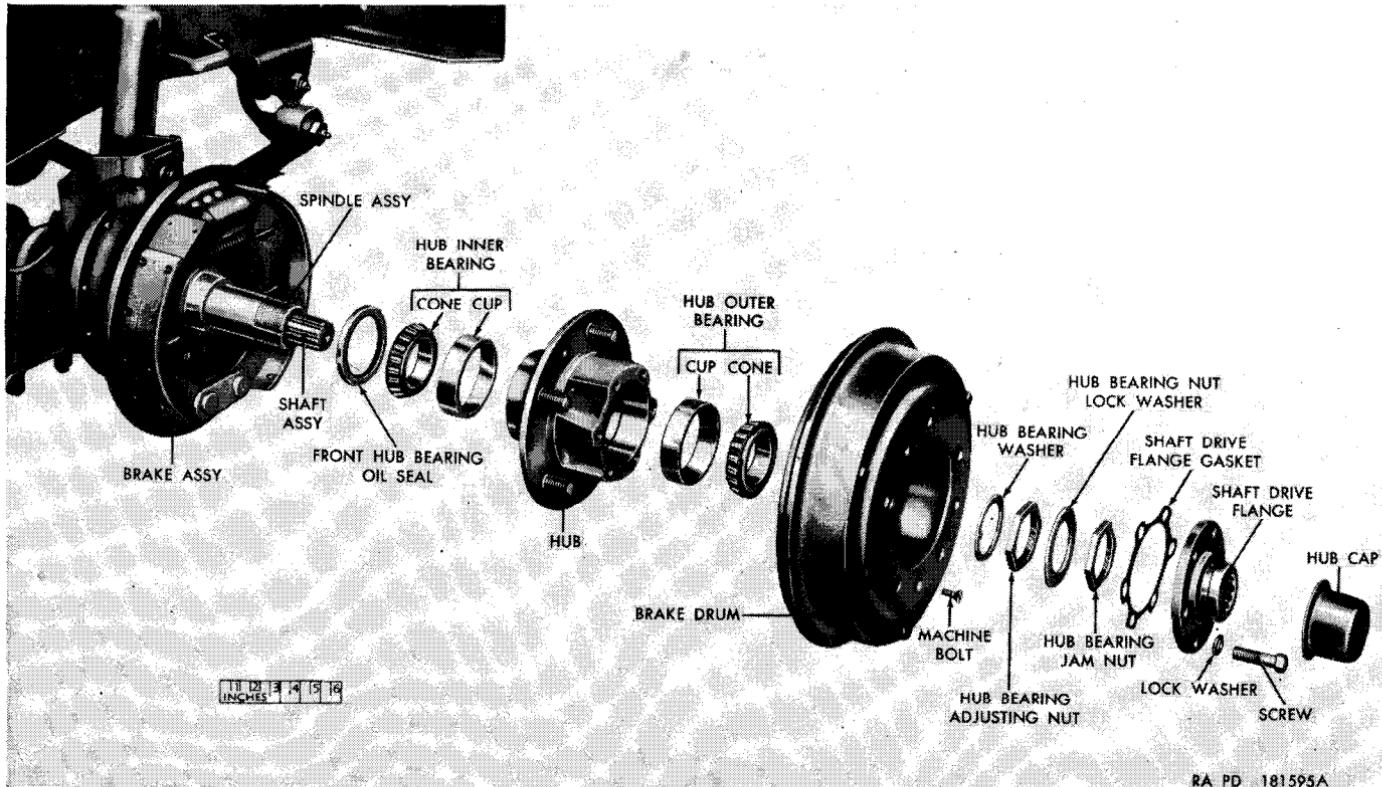
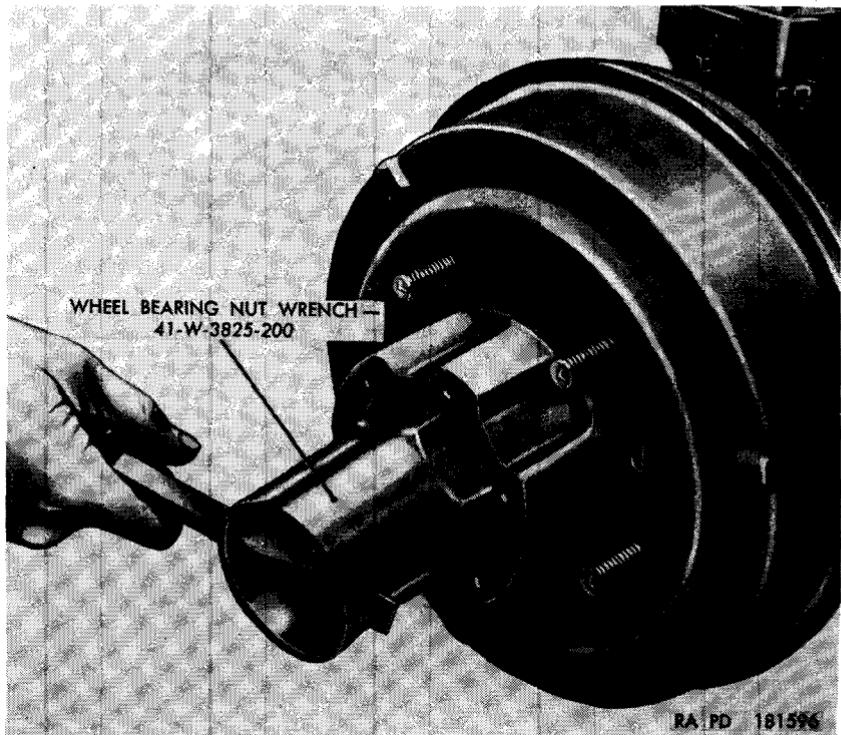
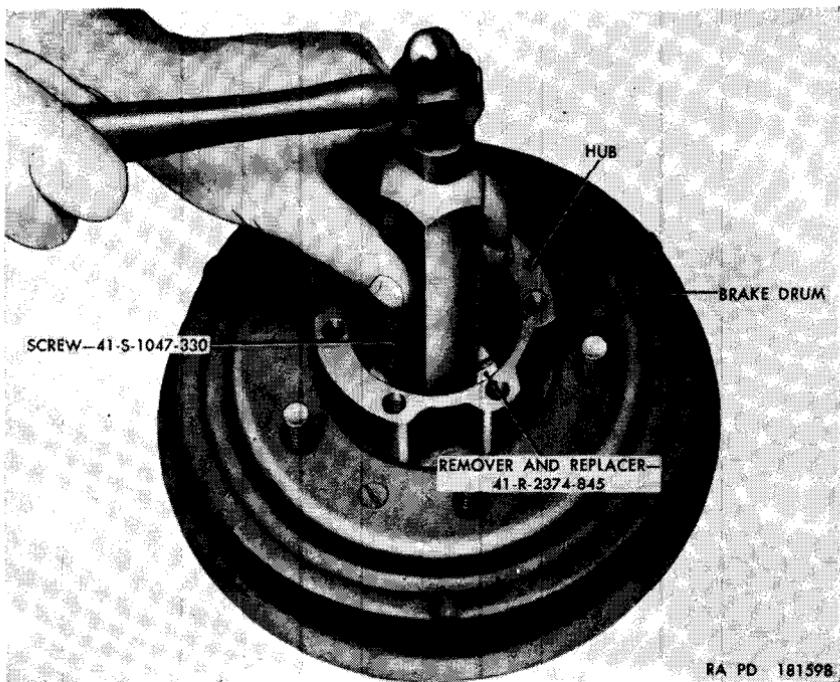

Figure 99. Front axle assembly—partially exploded view.
Figure 100. Removing front hub bearing jammnut.
Figure 102. Removing front hub bearing cup with remover and replacer 41-R-2374-845 and screw 41-S-1047-330.
- (1) The removal procedures contained in this paragraph apply to either left or right axle shaft assemblies.
- (2) Place the front wheels in the straight ahead position.
- (3) Place a jack under the front axle and raise the vehicle until the tires clear the ground. Place safety stands or suitable blocking under the axle to support the weight of the vehicle.
- (4) Pry off the hub cap and remove the six screws and lock-washers securing the shaft drive flange to the hub (fig. 99).
- (5) Install a suitable puller over the lip of the shaft drive flange and pull the flange off the axle shaft assembly. Separate the shaft drive flange gasket from the shaft drive flange (fig. 99).
- (6) Remove the wheel (par. 228).
- (7) Remove the brake drum (par. 228).
- (8) Straighten the lip of the hub bearing nut lockwasher (fig. 99) to clear the hub bearing jamnut (fig. 99). Position wheel bearing nut wrench 41-W-3825-200 (fig. 100) on the jamnut and unscrew the nut from the spindle assembly (fig. 99). Slide the bearing nut lockwasher (fig. 99) off the spindle assembly.
- (9) Position the wheel bearing nut wrench 41-W-3825-200 (fig. 100) on the hub bearing adjusting nut and unscrew the nut from the spindle assembly. Slide the hub bearing washer off the spindle assembly (fig. 99).
- (10) Pull the hub from the spindle assembly. Lift the hub outer bearing cone out of the hub (fig. 99). The hub outer bearing cup will remain in the hub.
- (4) Position the hub (fig. 99) on the spindle. Insert the hub outer bearing cone (fig. 99) into the hub, with the small end of the bearing taper facing toward the vehicle. Slide the hub and bearing on the spindle until hub seats against the spindle shoulder. Work the hub up and down on spindle and, at the same time, press bearing cone into position in hub.
- (5) Position the brake drum on the hub with the bolt holes in the drum and hub aligned. Install the three $\frac{1}{4} \times \frac{5}{8}$ bolts (fig. 99).
- (6) Position hub bearing washer on the spindle shaft, aligning the tang on the washer with the slot in the shaft, and slide washer onto shaft. Screw hub bearing adjusting nut (fig. 99) onto the spindle shaft fingertight.
- (8) Position the hub bearing nut lockwasher on the spindle shaft, alining the tang on the washer with the slot in the shaft, and slide washer onto shaft. Screw hub bearing jammnut (fig. 97) on the spindle shaft and tighten with wheel bearing nut wrench 41-W-3825-200 (fig. 100). Bend lip of lockwasher over wheel bearing housing adjusting and jammnuts.
- (9) Apply a little grease to the gasket surface of the shaft drive flange. Position a new shaft drive flange gasket (fig. 99) on the drive flange, alining the mounting holes in the gasket with the mounting holes in the flange.
- (10) Position the shaft drive flange and gasket on the shaft assembly, alining the splines in the flange with the splines in the shaft. With a soft mallet, tap flange and gasket part way onto the shaft. Rotate the hub and drum until the mounting holes in the drive flange aline with the mounting holes in the hub. Tap drive flange completely onto shaft and secure to hub with six $\frac{3}{8}$ -inch lockwashers and $\frac{3}{8} \times 2\frac{1}{2}$ screws (fig. 99).
- (1) Perform the operations outlined in paragraph 224a.
- (2) Lift the hub outer bearing cone (fig. 99) out of the hub.
- (3) Remove the hub inner bearing cone and drive the hub bearing oil seal (fig. 99) out of the hub.
- (4) Position remover and replacer 41-R-2374-845 and screw 41-S-1047-330 (fig. 102) in the hub and drive out hub inner bearing cup. Reverse the hub, position remover and replacer 41-R-2374-845 and screw 41-S-1047-330 in hub and drive out hub outer bearing cup.
- (1) Position the hub outer bearing cup (fig. 99) in the brake drum side of the hub. Install the remover and replacer 41-R-2374-845 and screw 41-S-1047-330 (fig. 102) in the hub and drive cup into position.
- (2) Position the hub inner bearing cup (fig. 99) in the brake assembly side of the hub. Install the remover and replacer 41-R-2374-845 and screw 41-S-1047-330 (fig. 102) in the hub and drive cup into position.
- (3) Position the hub inner bearing cone (fig. 99) in the hub with the small end of the bearing cone taper facing toward the brake drum.
- (4) Place a new hub bearing oil seal (fig. 99) in the brake assembly side of the hub (fig. 99) with the lip of the seal facing the hub inner bearing cone. With a soft mallet, tap the seal into the hub until it is flush with the hub.
- (5) Perform operations as outlined in paragraph 224b.
a. Removal. Jack up the vehicle until the tire clears the ground. Remove the five hub nuts (nuts on left wheels are threaded left hand and those on right wheels are threaded right hand). Pull the wheel off the hub and studs. Unscrew the three bolts (fig. 99) and pull the drum from the hub.